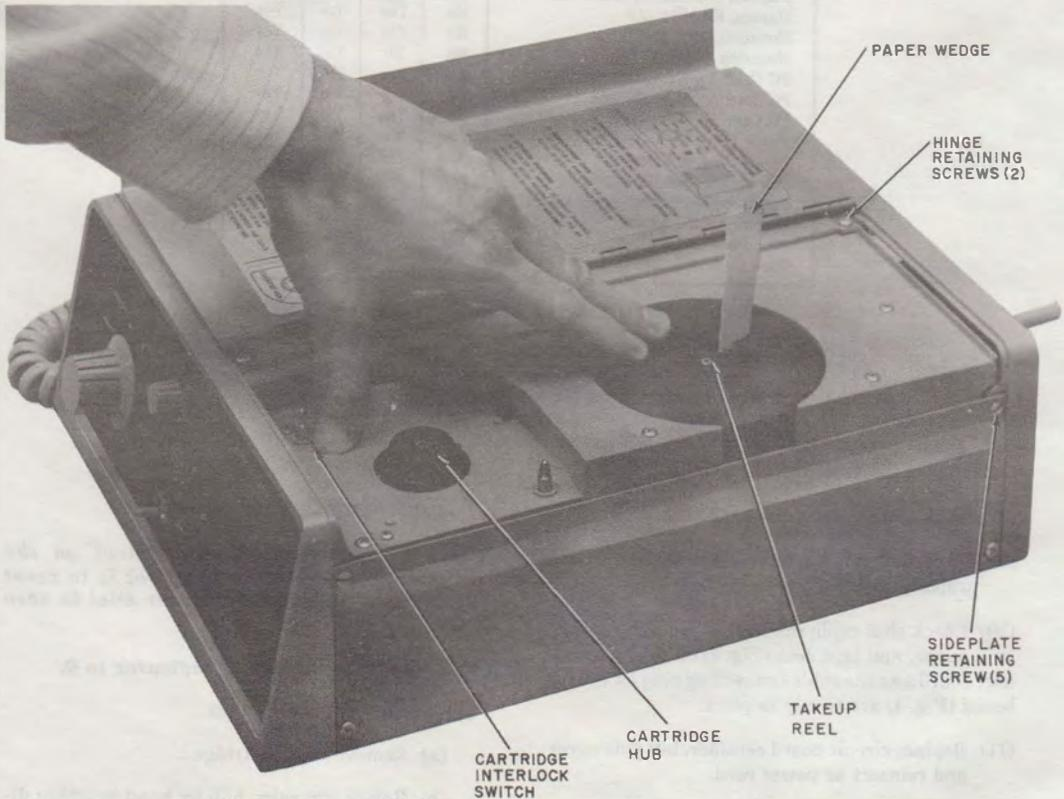
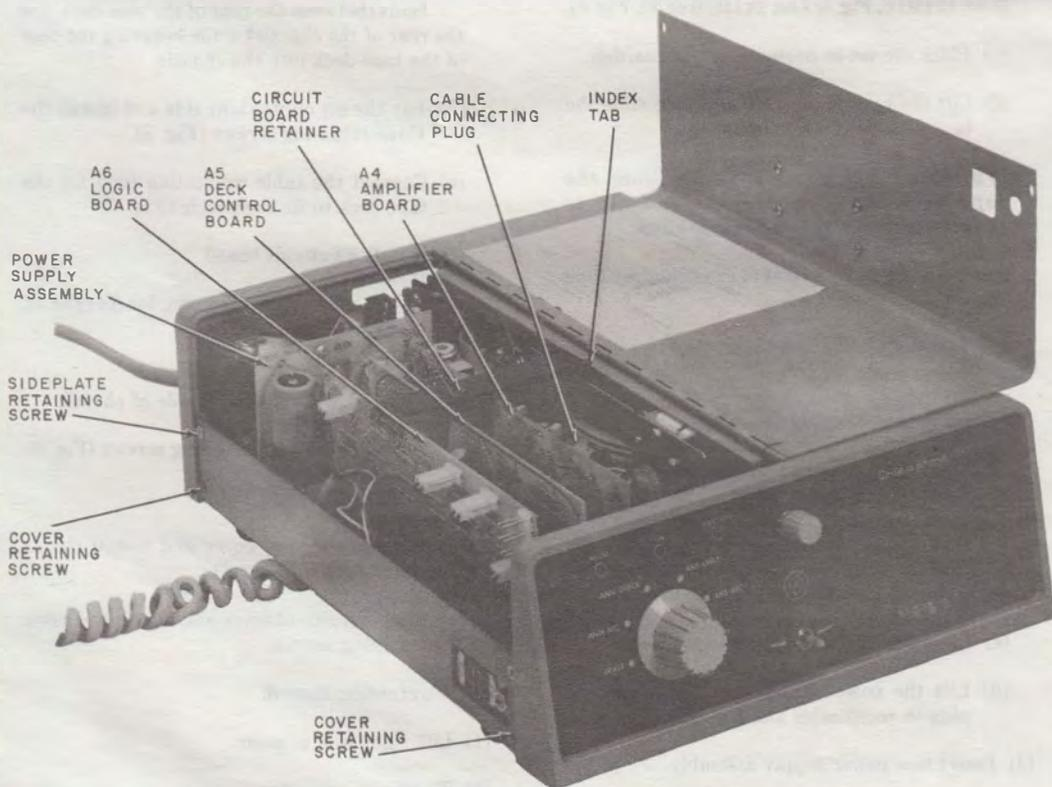

Fig. 3—Resetting "0" Registration on Message Indicator Dial
Fig. 4—Top Cover Removed, Internal View of Components
- (7) Remove power cord from ac outlet.
- (8) Check options for proper selection.
- (9) Check that A4, A5, and A6 circuit boards are properly installed.
- (10) Check that cable connecting plugs for power supply and tape deck (Fig. 7) on the interconnect board and the cable connecting plug on the A4 board (Fig. 4) are firmly in place.
- (11) Replace circuit board retainer, left side cover and reinsert ac power cord.
- (1) Manual method (Fig. 3).
- (2) Rapid rewind method (Fig. 3).
##### 4.01 Plug-in Circuit Boards (A4, A5, and A6; Fig. 4).
(1) Remove top cover (Fig. 4).
- (d) Remove two hinge retaining screws (Fig. 3).
- (2) Remove tape deck.
- (a) Remove cable connecting plug for A4 circuit board (Fig. 4).
- (g) Install cable connecting plug for A4 (Fig. 4).
- (6) Install cover.
- (b) Install two hinge retaining screws (Fig. 3).
- (d) Open left side of cover and install circuit board retainer (Fig. 4).
- (3) To install cartridge (Fig. 3).
- (a) Remove two cover retaining screws from left side (Fig. 4).
- (b) Lift cover and remove circuit board retainer (Fig. 4).
- (k) Replace the circuit board retainer making certain that all circuit boards are in the slots of the retainer and that the index tab of the retainer fits into the slot in the tape deck assembly (Fig. 4).
- (l) Close cover and install two retaining screws (Fig. 4).